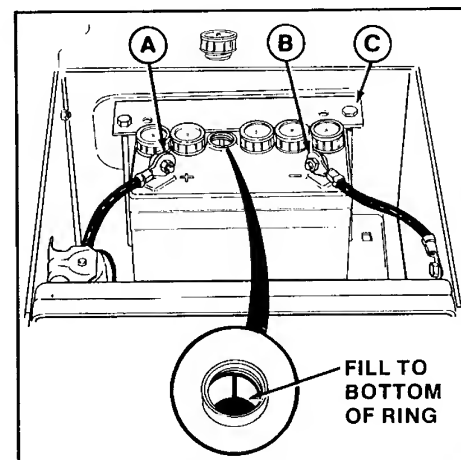

Figure 16. Battery
3. Fluid must be even with split ring full mark (figure 16). If not, add distilled water.
1. Disconnect the cables from the battery, negative cable first (figure 16).
5. Reinstall battery and clamp (figure 16).